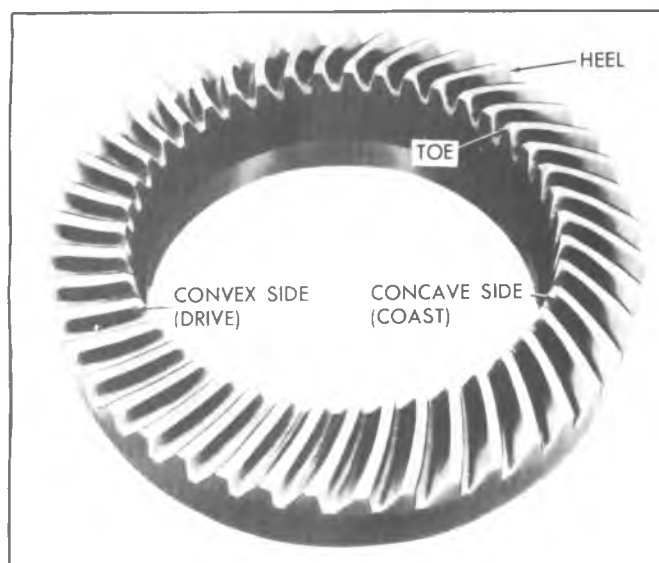

Fig. 4C-12--Gear Tooth Nomenclature
5. Observe pattern on ring gear teeth and compare with Figure 4C-13.